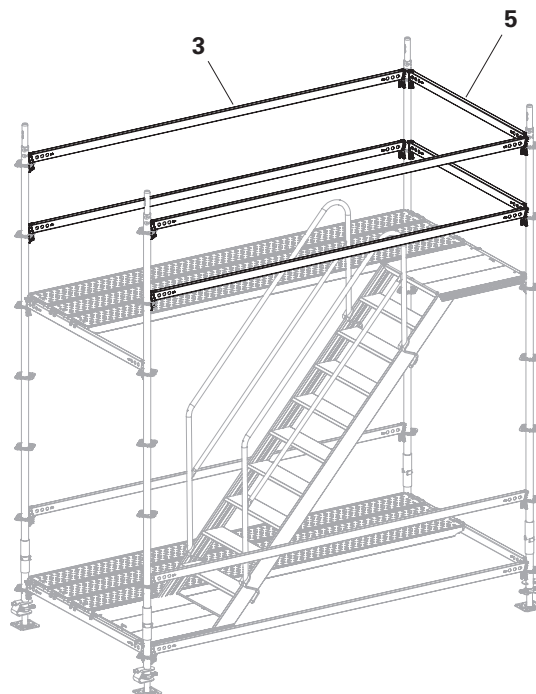

Fig. A3.10
5. Fit 2 x Horizontal Ledgers UH-2 150 (5) and 4 x Horizontal Ledgers UH-2 300 (3). Hammer all wedges into place. (Fig. A3.10)